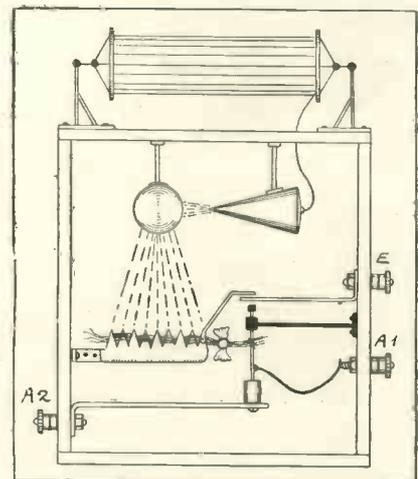

Fig. 6.—Walloph's Automatic Aerial-earthing Switch.
Then Walloph revealed the formidable contraption shown in Fig. 6, which he called an automatic aerial-earthing switch, the idea being to utilise the forces of an approaching
with some chosen anode voltage, is as shown in Fig. 6, and suppose that we put a 2-volt battery on the grid, with positive to filament. Then if we draw the vertical AC, and from where it cuts the curve draw the
*First.*—The straight (or approximately straight) part of the curve must be sufficiently long, so that the grid never reaches any part of the characteristic which is distinctly curved. For example, the straight part of Fig. 6 extends from about  $-4$  to  $+4$  volts, and hence no input of more than 8 volts should be applied—we will show later how to estimate the input voltage.
Fig. 6.—Showing how an alternating grid voltage produces a fluctuating anode current. To have no distortion, the curve P Q must be of the same type as X Y: the accompanying article shows how this can be achieved.